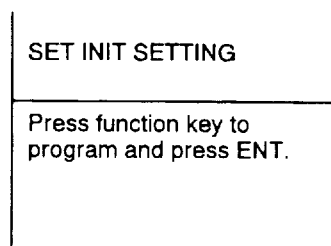

Figure 8-6 SET INIT SETTINGS menu, prompt for selection of function key to program
- 1) Press **MENU**, **9**, **1** and **9**. The display shown in Figure 8-6 appears.